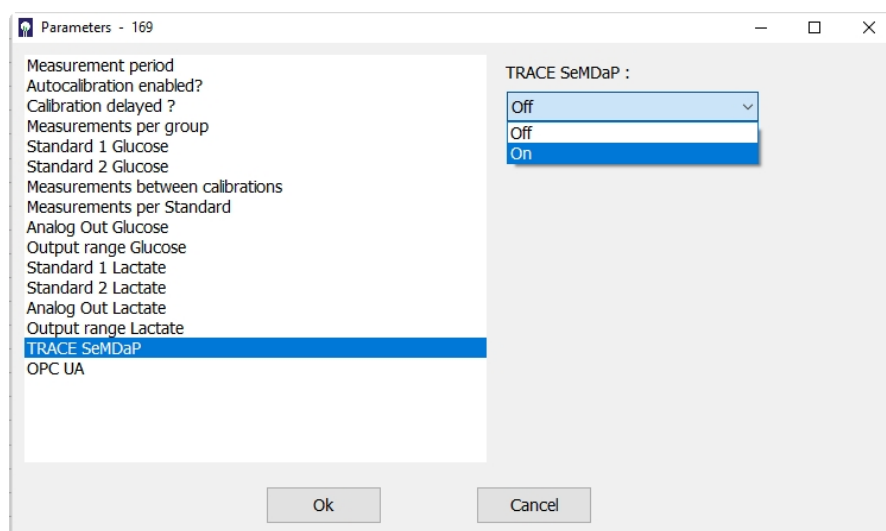

Figure 90: Activating the serial protocol
- This function is factory disabled and can be activated here (Figure 90).